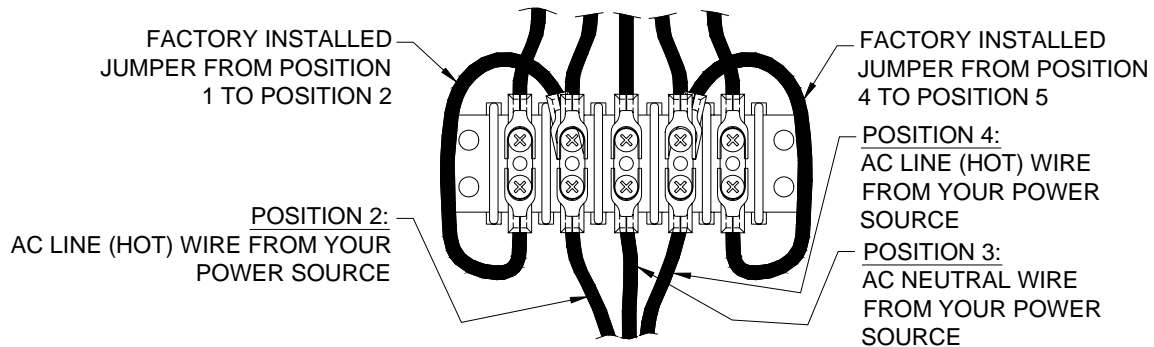

Figure 8 240 VAC Connections
3. If you are going to connect the scoreboard to a 240 VAC supply, connect one AC line wire to position 2, AC neutral wire to position 3, and the other AC line wire to position 4 of terminal strip T4 on the junction chassis according to figure 8.
4. If you are going to connect the scoreboard to a 240 VAC supply, connect one AC line wire to position 2, AC neutral wire to position 3, and the other AC line wire to position 4 of terminal strip T4 on the junction chassis according to figure 8.